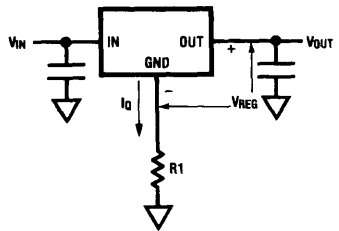

FIGURE 1. NPN Regulator
What happens when the need arises for a regulator voltage that isn't matched by your stock of fixed voltage I/C regulators? For the standard NPN pass transistor regulators (LM340 for example) the answer may be as simple as adding a resistor (R1) in the ground pin (Figure 1). The new output voltage (VO) will then be: